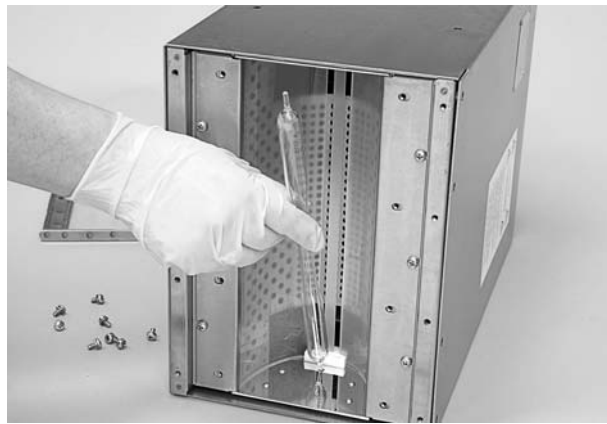

Figure 5-4 Bulb Removal
4. See Figure 5-4. Grasp the ends of the bulb and push it to one side. Lift one end of the bulb out of the retaining hole; the other end of the bulb should come out of the other retaining hole.